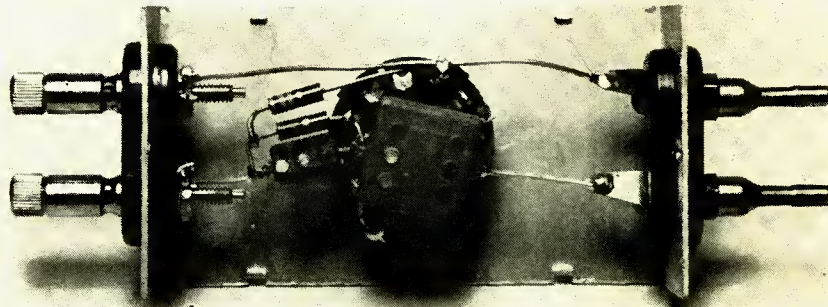

Fig. 7. Internal construction of the unit, showing how all components are mounted on switch.
Fig. 7. Block schematics illustrating how the distribution of feedback can be modified in a two-loop feedback amplifier: in the original amplifier (A) the inner loop gives 6 db feedback, with an attenuation in the feedback of 12 db across a gain of 18 db; this gives a resultant gain of 12 db; the over-all gain is controlled chiefly by the 20 db attenuation in the over-all feedback; with $34 + 12 = 46$ db total forward gain, this loop gives 26 db feedback. By increasing the inner-loop feedback to 10 db (reducing the attenuation in the feedback path from 12 db to 8 db), the output section with feedback now drops to 8 db gain (B), and the over-all gain is now only $34 + 8 = 42$ db. As a result, the outer-loop feedback is now 22 db instead of 26 db. These figures are approximations based on the formula $A = 1/B$, which is not too accurate here; in practice there would be a change in gain of 3 db feedback on the inner loop and of about 2.7 db on the outer loop, leaving a net change of about 0.3 db (lower). A slight reduction in outer-loop feedback could offset this.
To achieve this the feedback resistors in the outer loop need not as a rule be changed, because increasing the feedback in the inner loop alters the effective gain in the outer loop and so automatically reduces the feedback in the outer loop by approximately the same amount as the inner loop feedback is increased. Figure 7 illustrates this. Do not try to vary this more than about 3 to 6 db from the origi-
quite straightforward. The entire wiring is constructed on a two-circuit, six-position switch, and mounted in an aluminum box $2\frac{1}{4} \times 2\frac{1}{4} \times 4$ in. The input terminals are a set of banana plugs, spaced at $\frac{3}{4}$ in. so as to plug directly into a signal generator. The output is taken from a pair of banana jacks spaced at the same distance. *Figure 7* shows an inside view of the unit.